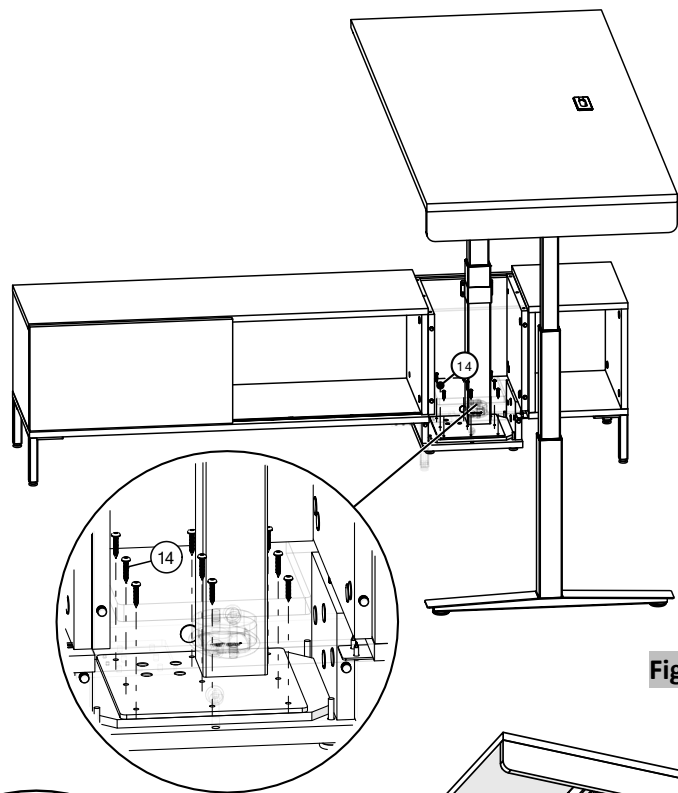

Figure 10
- 16.** Securely fasten the HAT leg mounting plate to bottom filler of HAT integration box using #10 x 1" Pan Head Screws. (Figure 10).